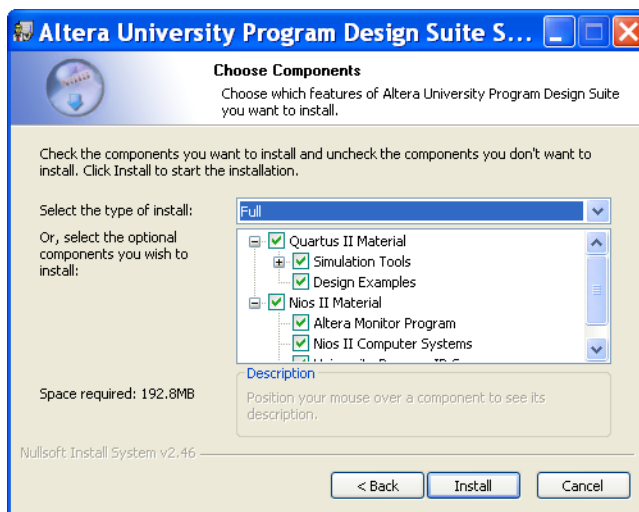

Figure 2. The components that will be installed.
5. The next screen, shown in Figure 2, lists the components that will be installed, which include the Monitor Program software and University Program IP Cores. The University Program IP Cores provide a number of I/O device circuits that are used in Nios II hardware systems.